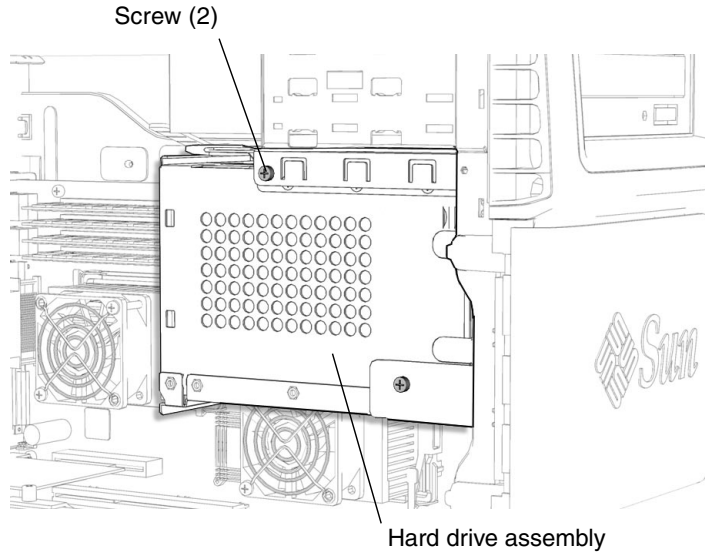

FIGURE 14-5 Removing the Two Screws for the Hard Drive Assembly
8. Remove the two screws for the hard drive assembly (FIGURE 14-5).